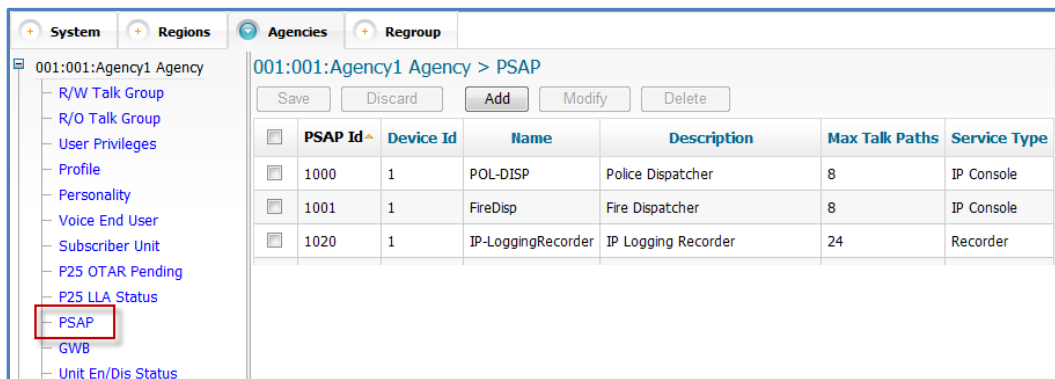

Figure 7-3: Agency PSAP Device Screen
3. Click **PSAP** to display the “PSAP” screen as shown in Figure 7-3.